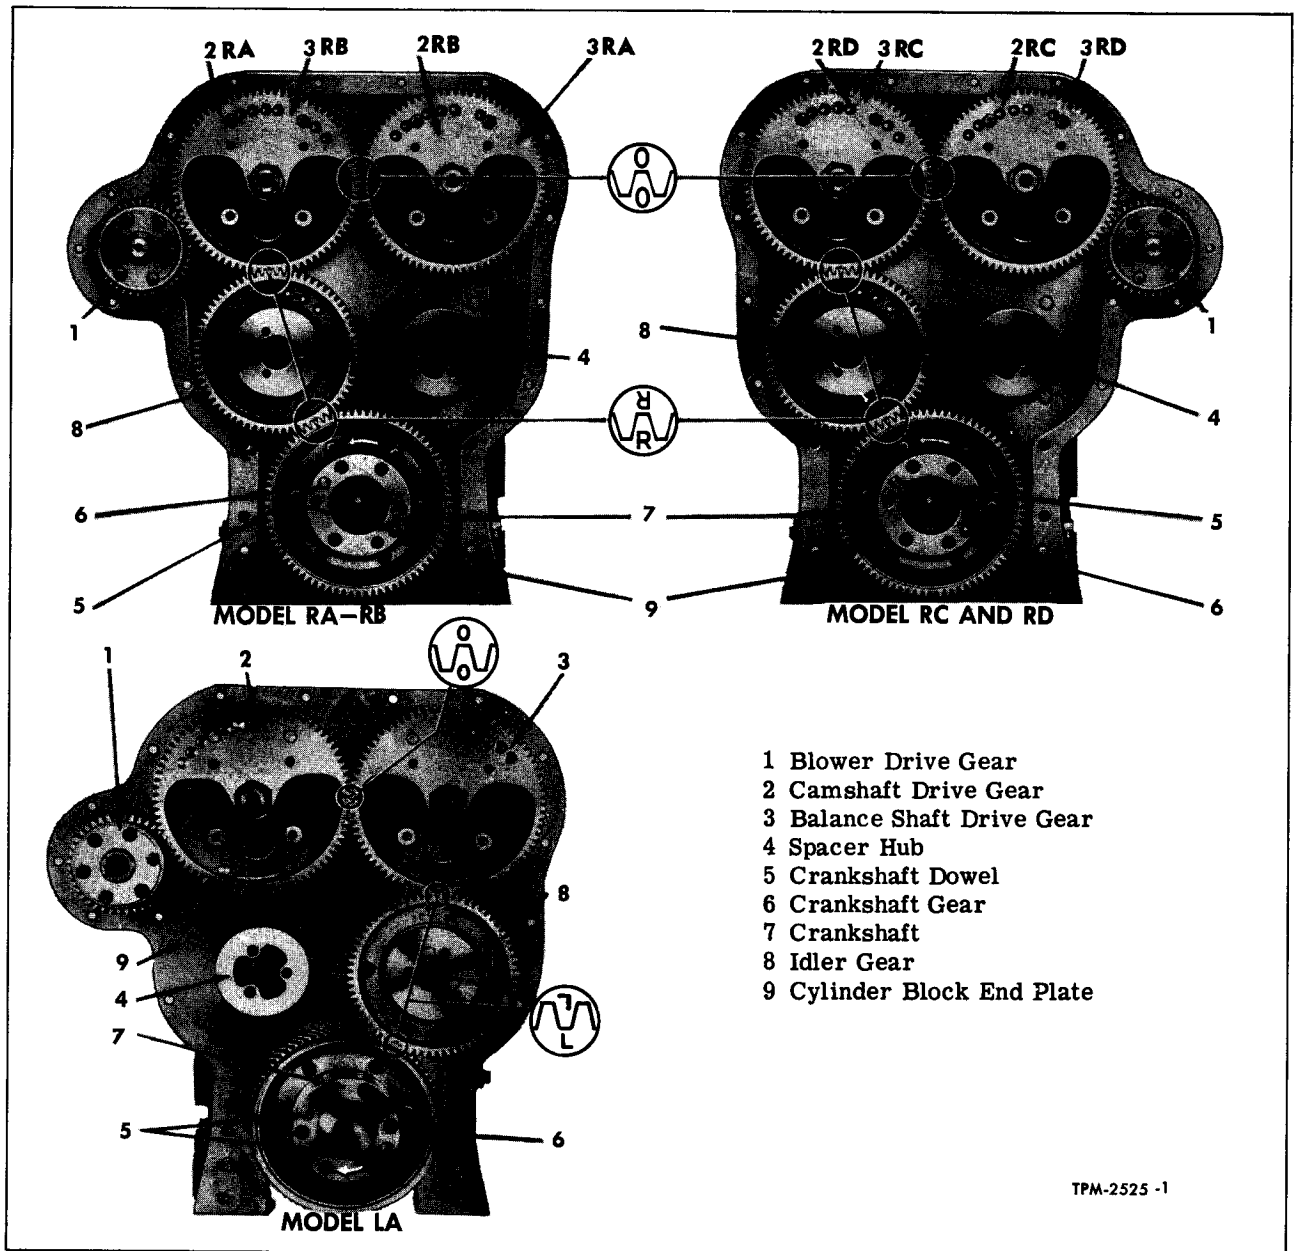

Figure 52—Gear Train and Timing Marks
A train of five helical gears, illustrated in figure 52, is located at rear of engine, and is completely enclosed between cylinder block end plate and flywheel housing or gear train cover.
2. Position gear onto crankshaft with flat finished face of gear toward cylinder block. Rotate crankshaft and gear until timing mark "R" or "L" matches corresponding mark on idler gear (fig. 52).